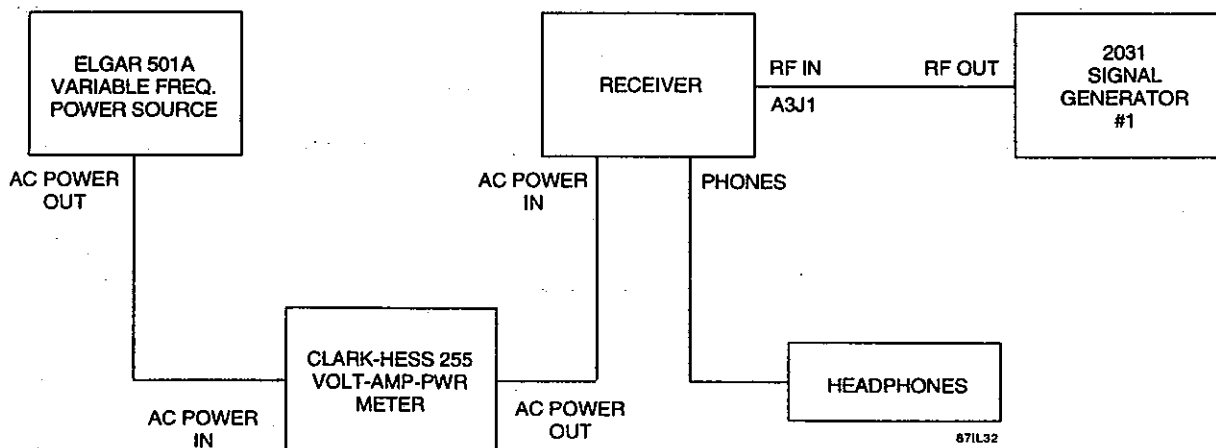

Figure 7-1. Power Consumption Performance Test Equipment Connection
1. Connect the WJ-8712P Receiver and test equipment as illustrated in **Figure 7-1**.